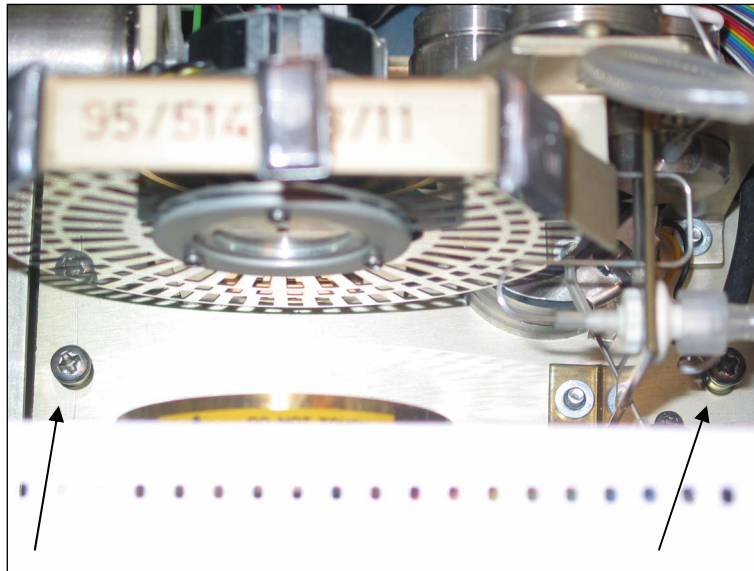

Fig.2.1 The transportation screws (indicated by arrows)
3. Locate the protection screws (see Fig.2.1).